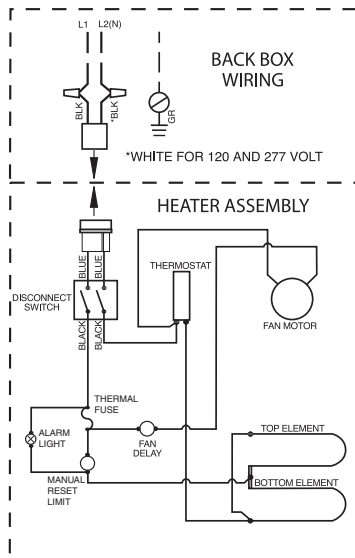

Figure 3
1. Following wiring diagram (Figure 3) connect supply wiring to heater lead wires in back box.